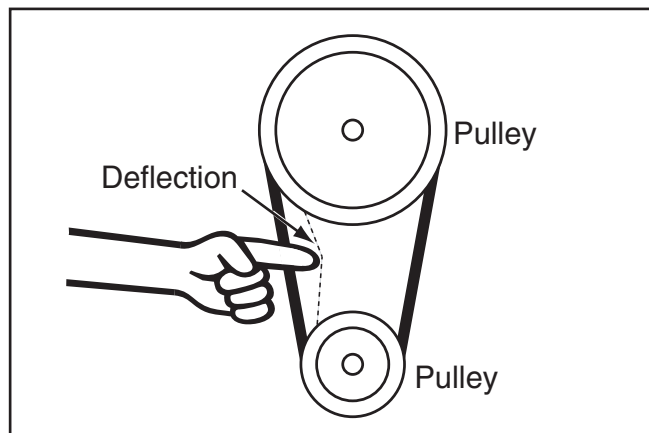

Figure 91. Checking motor V-belt tension.
3. From the back of the lathe, check the motor V-belt deflection when moderate pressure is placed on the V-belt mid-way between the pulleys—it should be approximately 1/2" (see **Figure 91**).